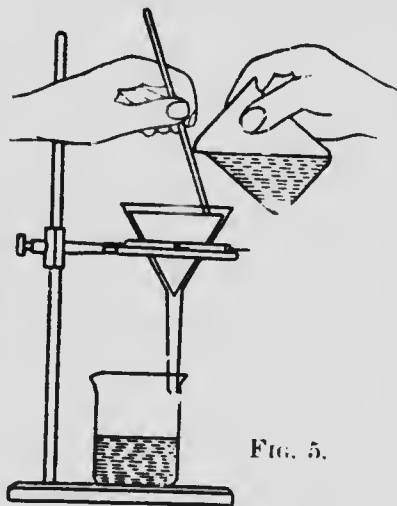
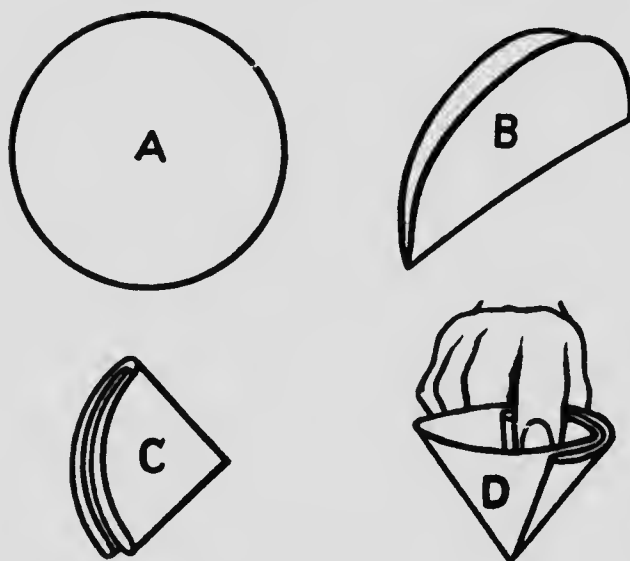

FIG. 5.
FIG. 6.
should be done with the help of a stirring rod; see Fig. 5. The rod prevents the liquid running down the outside of the vessel and also directs the stream of liquid to the place desired. When the rod is used for stirring liquids in beakers it is well to have a piece of rubber tubing on the end, otherwise the rod may break the beaker.
(5) **Filtering.** Fig. 5 shows how the operation may be carried on. The filter paper (A), Fig. 6, is folded in half to form a semicircle (B) and again to form a quadrant (C).
should be done with the help of a stirring rod; see Fig. 5. The rod prevents the liquid running down the outside of the vessel and also